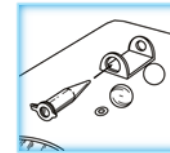

Figure 4
- Insert the sample vial into the vial holder as shown in Figures 4 and 5.